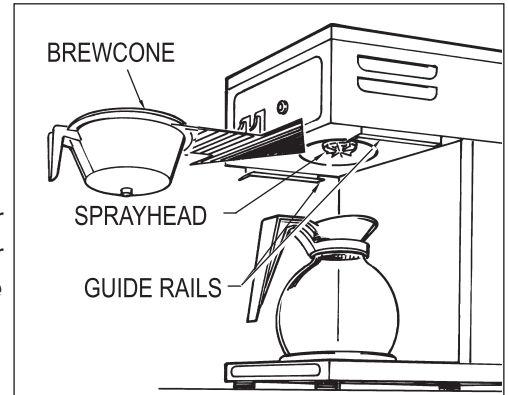

Figure 1. Sprayhead and brewcone
3. Insert an empty brewcone into the brew rails unit (fig. 1.).
2. Slide brew cone into guide rails (fig. 1.). Place a clean empty decanter on warmer plate (use an airpot with the Café AP).